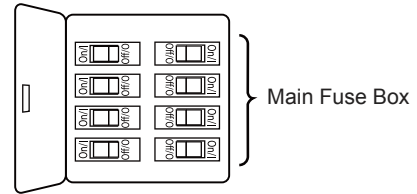

Figure 1
- 1. To set the code on receiver unit, slide dip switches to the same positions as set on the remote control. (Figure 1)
1. Assemble canopy by rotating key slot in canopy over shoulder screw in hanger bracket, taking care not to pinch the wires. Tighten shoulder screw. Fully assemble and tighten second shoulder screw that was previously removed. (Figure 1)